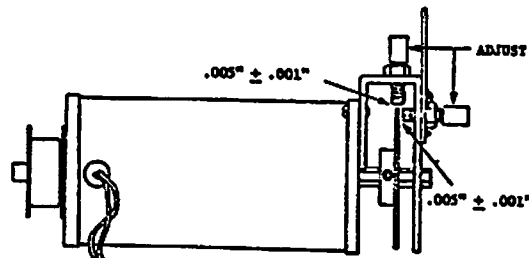

FIGURE 5-17 MAGNETIC PICKUP ADJUSTMENT
- 3) The distance between the edge/face of the timing disk and the pickkups should be consistent along the circumference of the disk with a gap of $.005'' \pm .001''$ ($.127 \text{ mm} \pm .025 \text{ mm}$) (Figure 5-17).